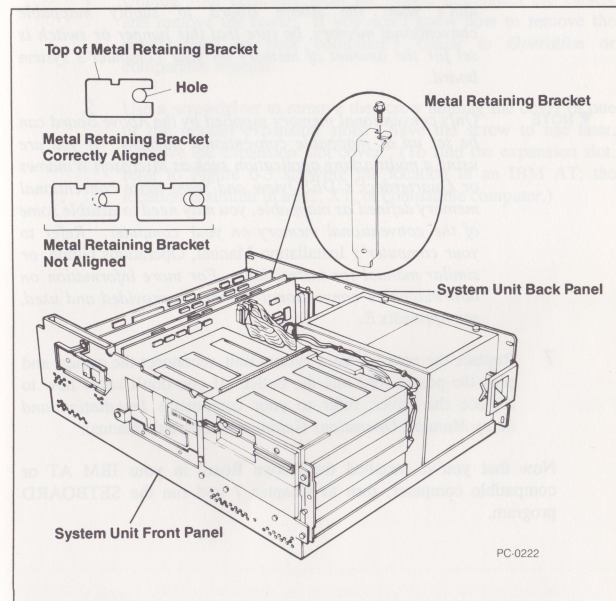

Figure 6-7 Aligning and fastening the metal retaining bracket to the back panel of an IBM AT or compatible computer
- 6 Align the opening in the top of the Above Board's metal retaining bracket with the hole in the top edge of the system unit's rear panel as shown in Figure 6-7. Fasten the metal retaining bracket to the panel with the screw you removed in step 3.